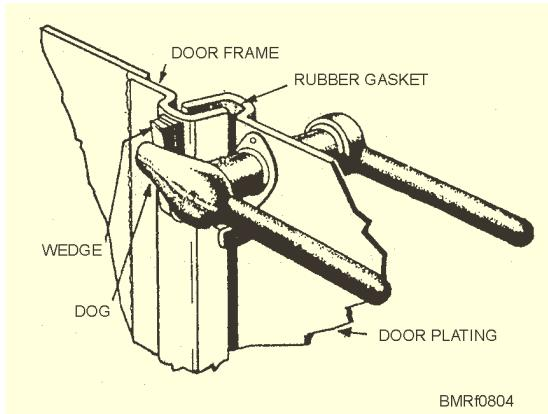
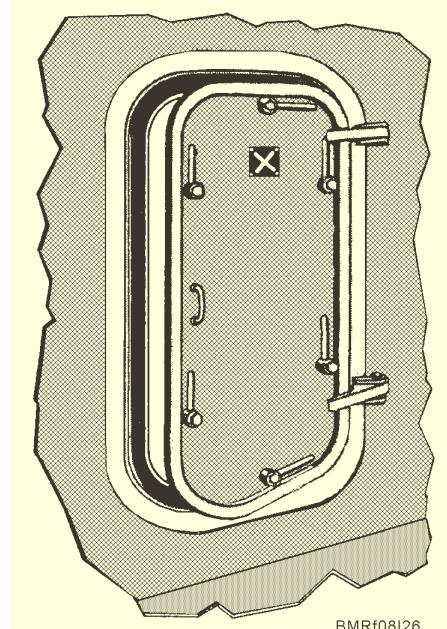
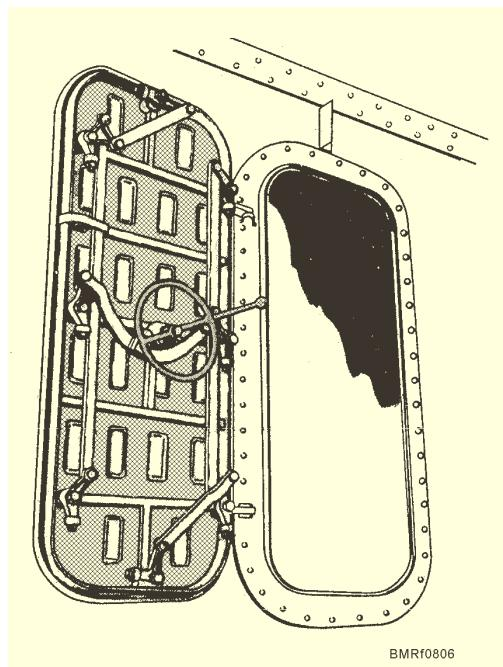

Figure 8-4.—Dogs and gasket for watertight door.
Figure 8-5.—Watertight door with individually operated dogs.
Figure 8-6.—Quick-acting watertight door.
Access through bulkheads is provided by *doors* and through decks by *hatches*. Watertight (WT) doors, as the term implies, form a watertight seal when properly closed. All doors leading to weather decks are of the watertight variety, as are those in structural (watertight) bulkheads. (See fig. 8-4.) The doors are held closed by fittings called *dogs*, which bear up tight on wedges. A rubber gasket around the edge of the door presses against a knife-edge around the doorframe forming a watertight seal when all dogs are properly seated (*dogged down*). Some doors have individually operated dogs, as shown in figure 8-5. Other doors are quick acting types, for which a handwheel or lever operates all the dogs at once, as shown in figure 8-6. Some WT doors have openings, called *passing scuttles*, through which ammunition is passed. These scuttles (small tubelike openings) are flashproof as well as watertight.